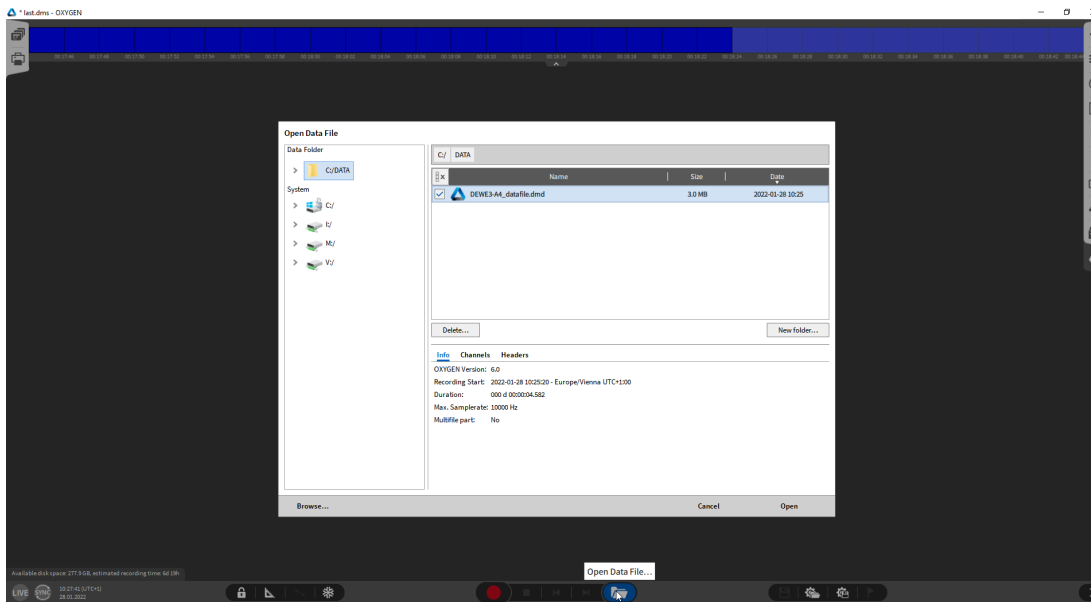

Fig. 26: Opening data file
1. Click on the file button, and select the corresponding file (see *Fig. 26*).